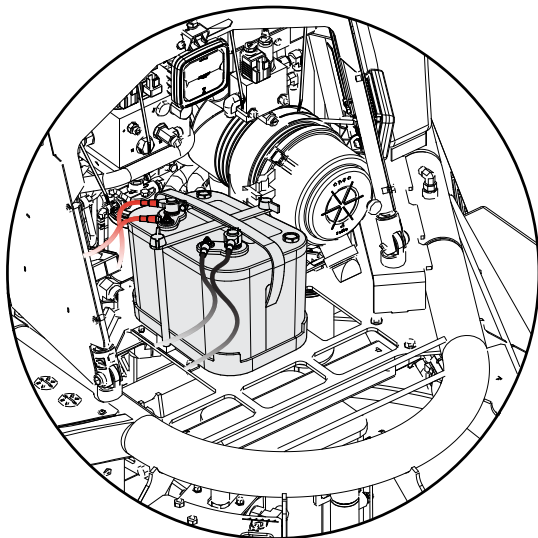

Figure 13. Battery Box
3. To install the battery on the trowel, make sure that the battery is well seated in the battery box (Figure 13).